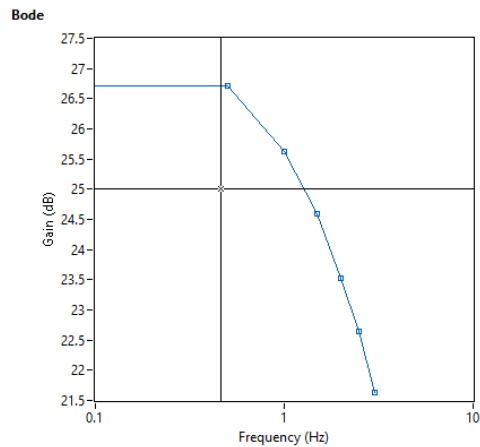

Figure 9: Sample Bode plot
10. From the Project Explorer open **Bode Plot.vi**. Using this VI and the data collected in Table 2, generate a Bode magnitude plot similar to the one shown in Figure 9. In this example, the Y-axis represents magnitude in decibels and the X-axis represents frequency in hertz using a logarithmic scale.